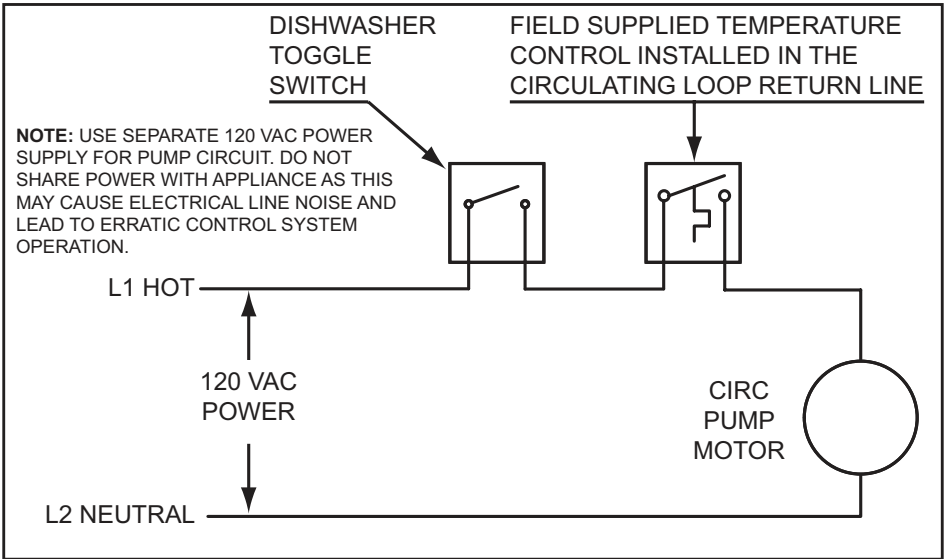

Figure 66. Recirculating Loop with Dish Washer and Toggle Switch
7. If a pump is being installed in a recirculation loop between the water heater and a commercial dishwasher wire according to *Figure 66* (page 71).
- 7. If a pump is being installed in a recirculation loop between the water heater and a commercial dishwasher wire according to *Figure 66* (page 71).